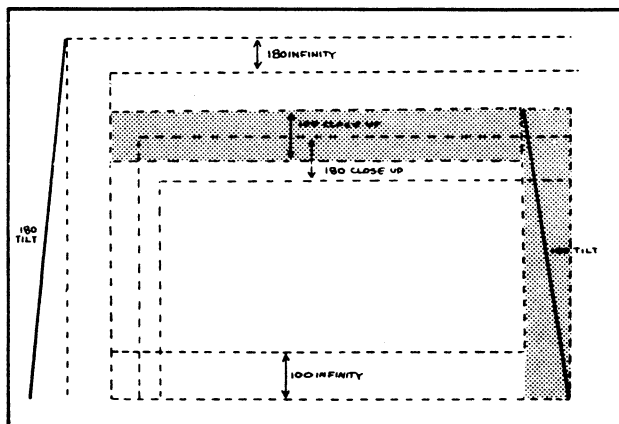

FIG. 3.11 FRAME TARGET - 100 CLOSE-UP & 100 TILT
3. Aim the camera at the frame target and move the focus bar to CLOSE-UP. Observe the target through the image sizer window and check that the inside points of the top and right side diamonds of the projected frame image are within the area bounded by the 100 close-up and 100 tilt target lines (Figure 3-11). If they are not, repair or replace the image sizer according to the instructions in Section V.